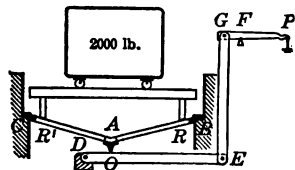

FIG. 174. — Platform scales.
22. In the hay scales of Fig. 174, the levers AB and AC are each 8 ft. long; BR and CR' are each 8 in. long; DE is 10 ft., and OD is 1 ft.; GF and PF are 9 and 30 in. long respectively. What weight